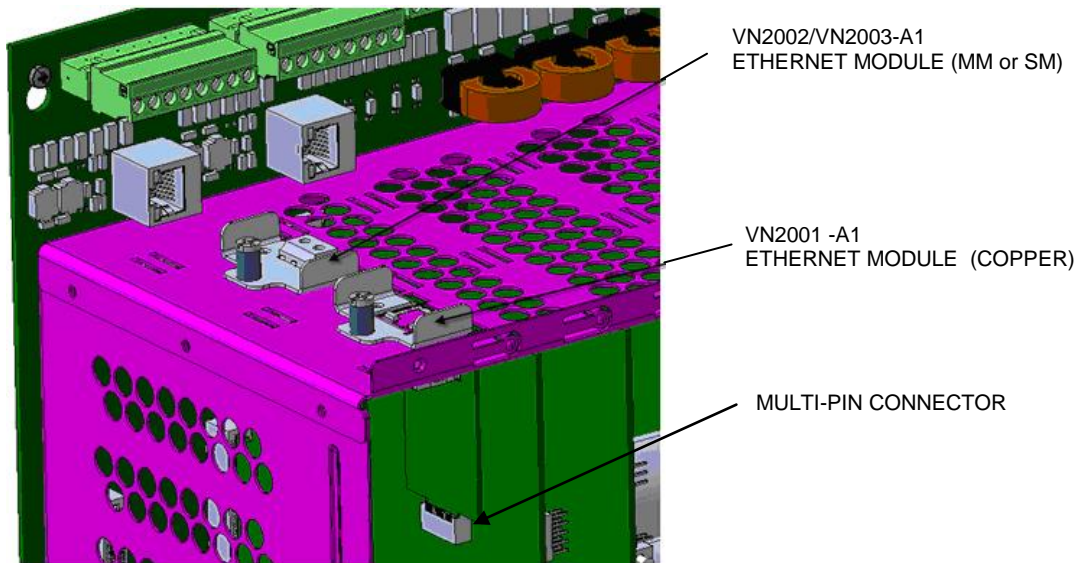

Figure 5
7. Insert the first VN2002/3-A1 Ethernet Module through the specified knockout opening on top of the VCA2002-A1 Card Cage and press it into the multi-pin connector mounted on the VCC2001-A1 Voice CPU card. The multi-pin connector is located approximately 2¹/₂" below the knockout opening, as illustrated in Figure 5. Install the second module for the other link in the same manner through the remaining knockout opening.